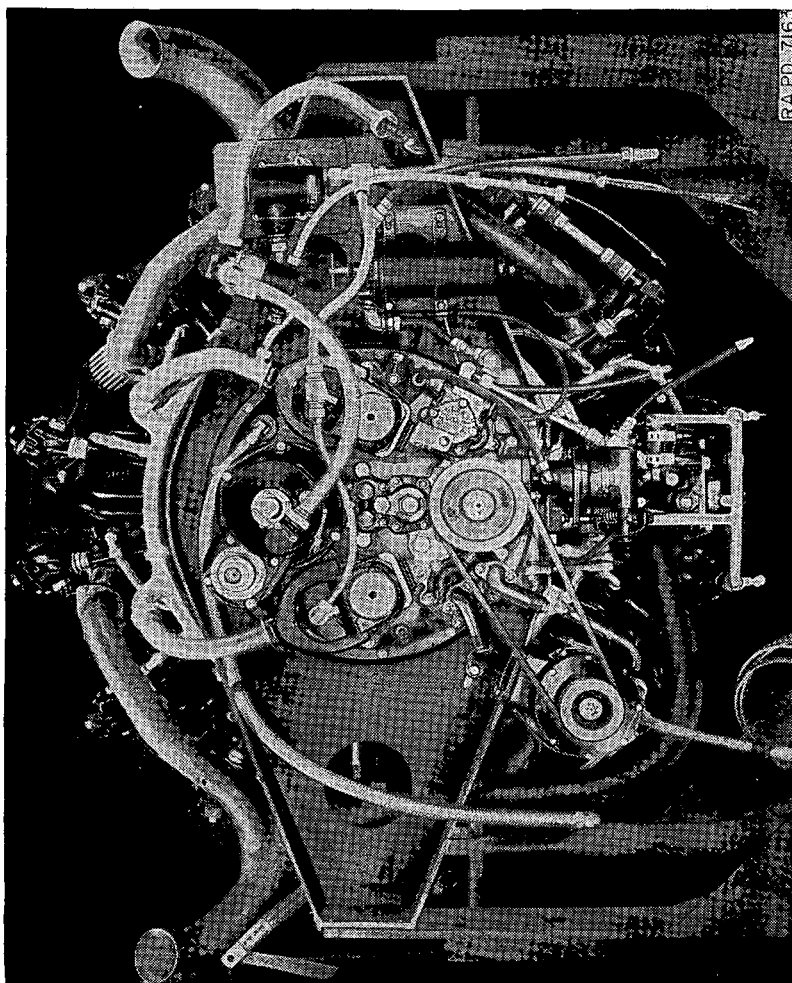

FIGURE 22.—Continental engine W670, series 9A.
43. General description and data (fig. 22).—a. The Continental W670-9A is an air-cooled, 7-cylinder, static radial engine of the aviation type.
b. Replacement.—(1) *Removal of oil pump assembly* (fig. 22).—
(2) *Installation of oil pump assembly*.—To install the oil pump, proceed in reverse order to (1) above.
(4) *Installation of scavenger pump*.—Proceed in reverse order to (3) above.